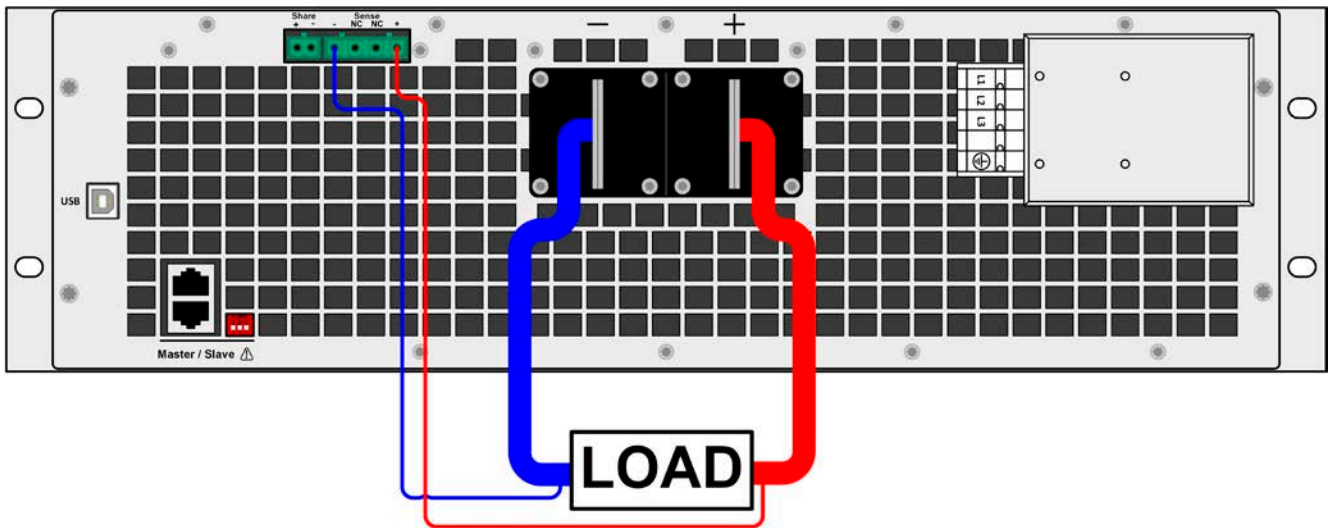

Figure 8 - Example for remote sensing wiring
- Remote sensing is only effective during constant voltage operation (CV) and for other regulation modes the sense input should be disconnected, if possible, because connecting it generally increases the oscillation tendency
- The + sense cables must be connected to + on the load and - sense to - at the load, otherwise the sense input of the power supply can be damaged. For an example see *Figure 8* below.